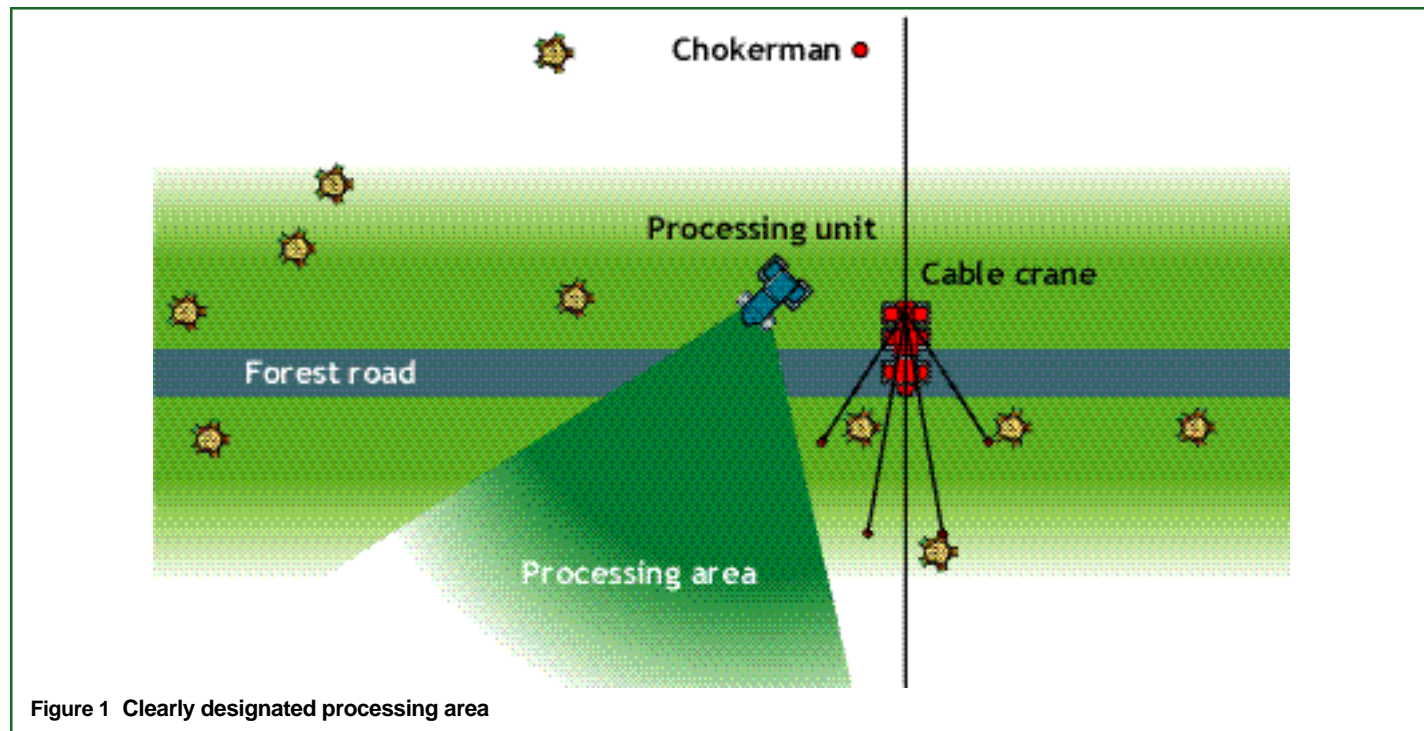

Figure 1 Clearly designated processing area
- 7 The operation must be planned to ensure all processing is carried out in a direction away from operators and machinery. A clearly designated processing area should be identified (see Figure 1).